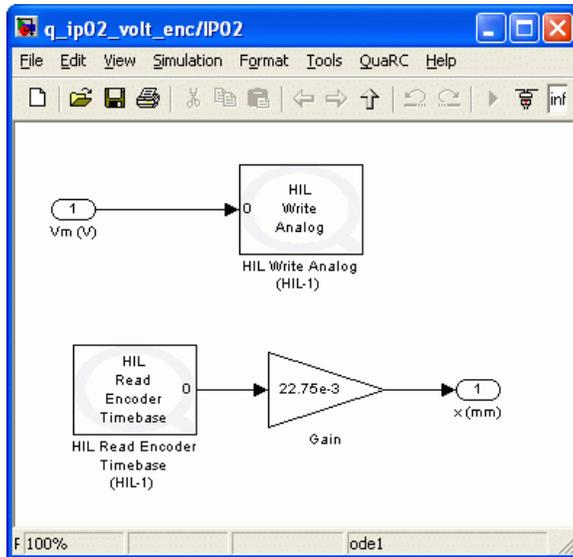

Figure 13 IP02 Subsystem
- Step 1. Start a fresh Simulink diagram and create a model that contains a subsystem that has the IP02 motor voltage as input and the encoder reading (in mm) as output. Such a subsystem (a.k.a. block) can be seen in Figure 13, below, as combining the models